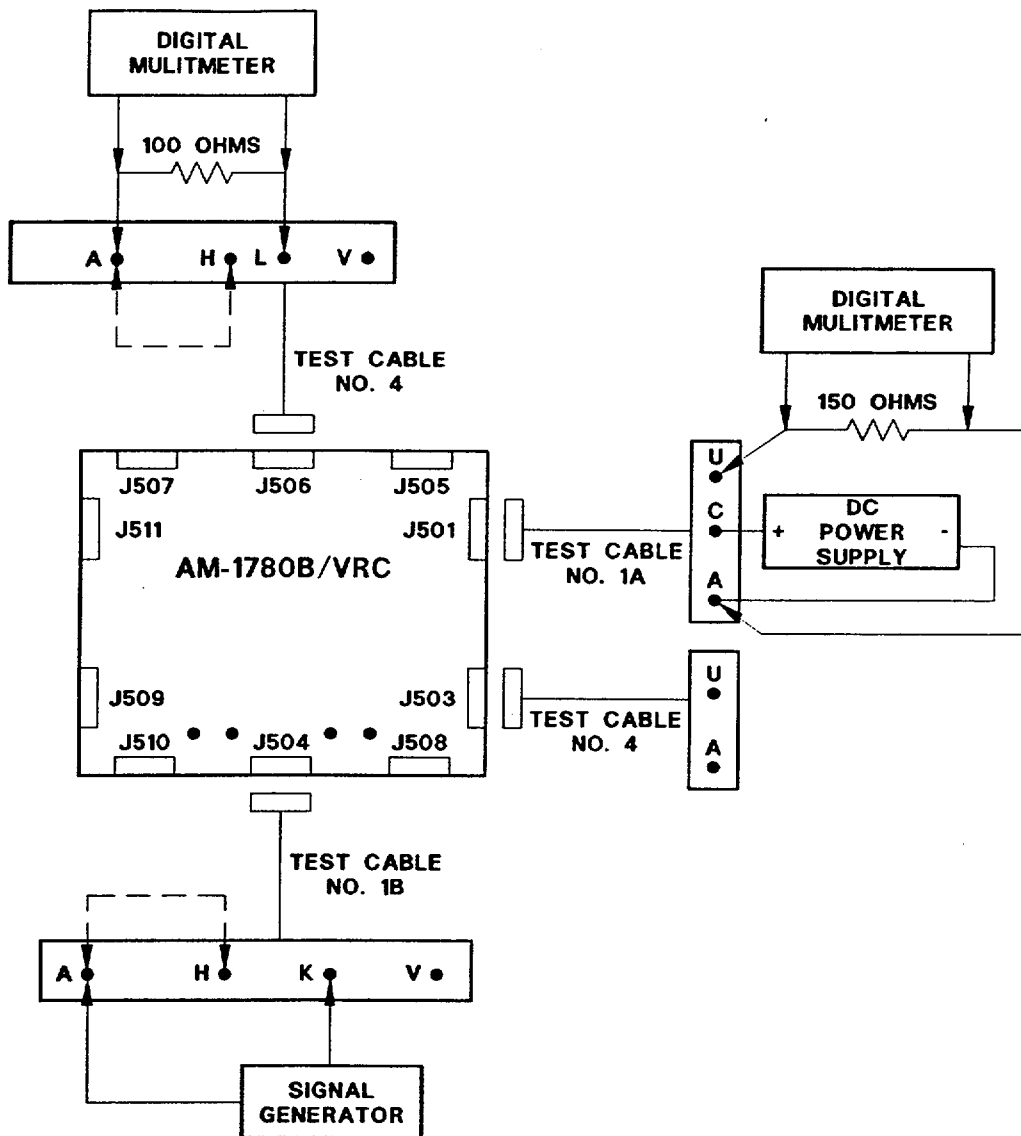

Figure 3-12. GS Test Setup K.
**a.** Connect a 100 ohm resistor between J506- L and ground (fig. 3-12). Connect a digital multimeter, set to read ac volts, across the 100 ohm resistor.